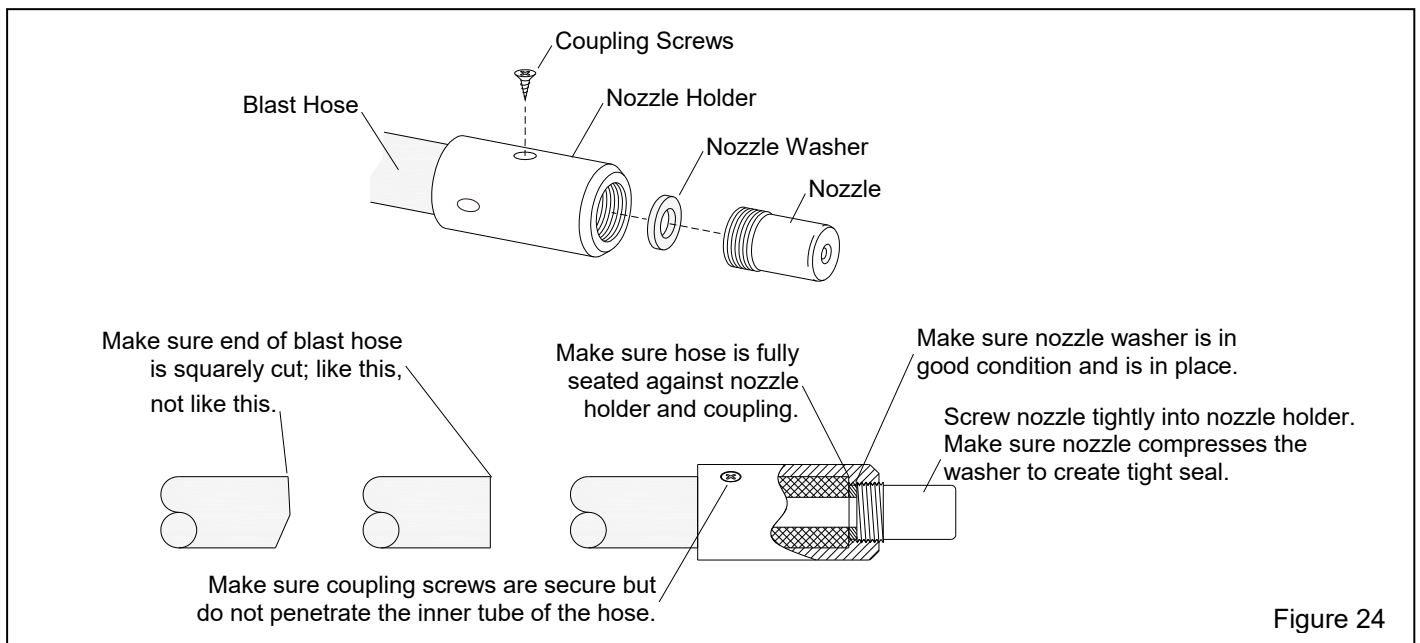

Figure 24
7.2 Blast Hose and Nozzle – Figure 24